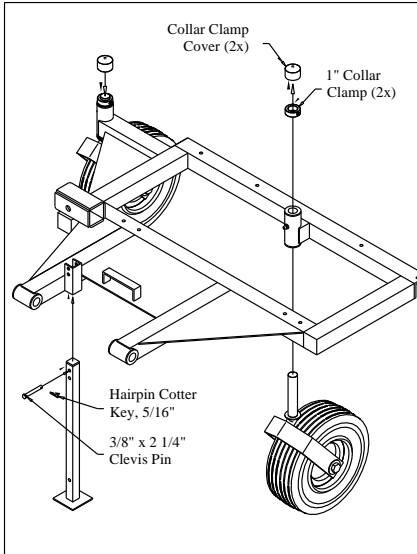

Fig. 1
1. Slip caster assembly (28) through the receiver tube on the frame (1). Secure with 1" collar clamp, slip plastic cover over collar clamp. Repeat for the other caster. Slip stand (31) into receiver on main frame and secure with 3/8" x 2 1/4" clevis pin (24) and 5/16" hairpin cotter (47). See Fig. 1